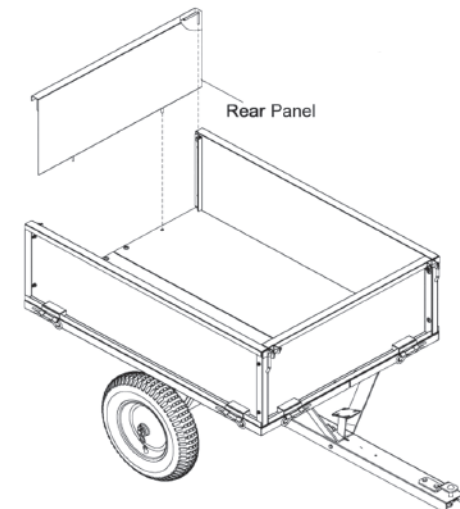

Fig. 8
STEP 8: Attach the Rear Panel (See Fig. 8)